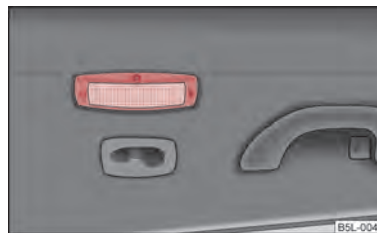

Fig. 33 Rear vehicle interior lighting ▶
- Press the cover glass in the area of the symbol  => fig. 33.